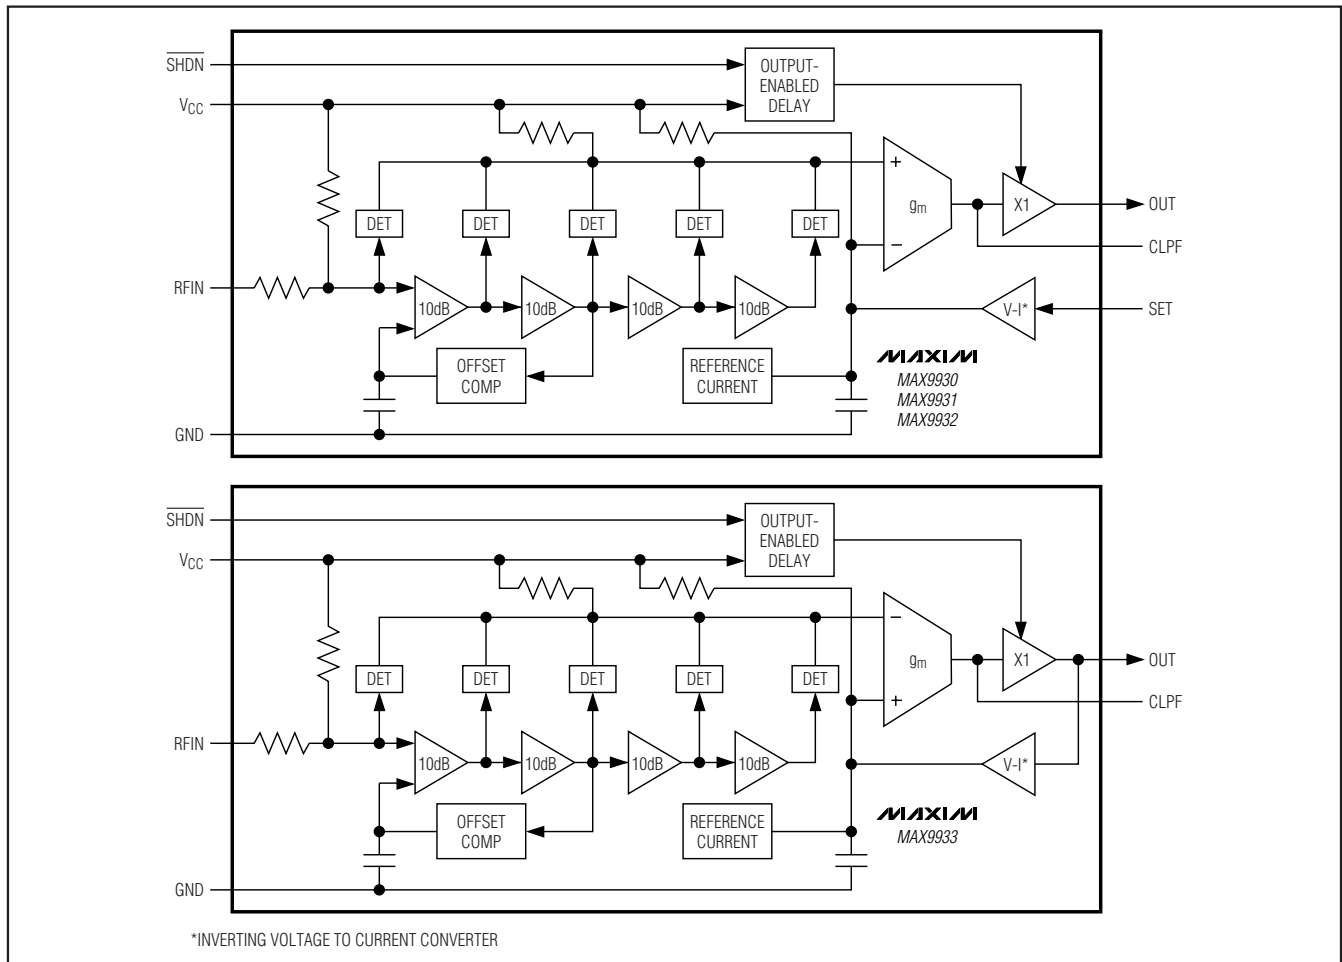

Figure 1. Functional Diagram
**Note 3:** Set-point slew rate is the rate at which the reference level voltage, applied to the inverting input of the  $g_m$  stage, responds to a voltage step at the SET pin (see Figure 1).
The MAX9930-MAX9933 family of logarithmic amplifiers (log amps) comprises four main amplifier/limiter stages each with a small-signal gain of 10dB. The output stage of each amplifier is applied to a full-wave rectifier (detector). A detector stage also precedes the first gain stage. In total, five detectors, each separated by 10dB, comprise the log amp strip. Figure 1 shows the functional diagram of the log amps.